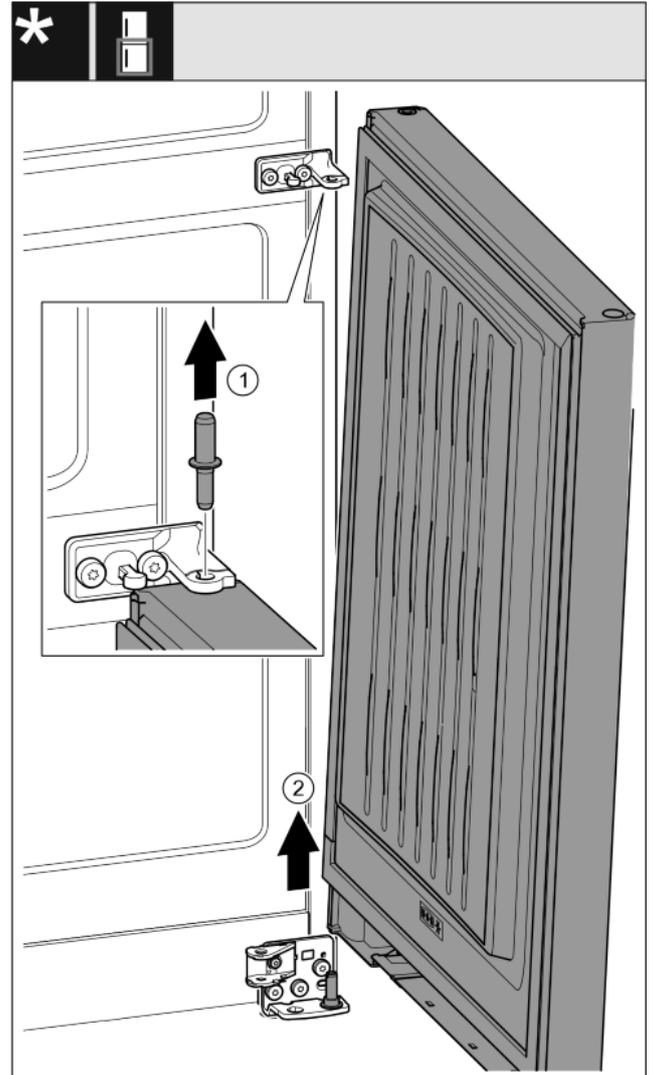

Fig. 19*
- ▶ Pull out the bolts upwards.* Fig. 19 (1)
- ▶ Swing the door out, pull it upwards and set it aside.* Fig. 19 (2)